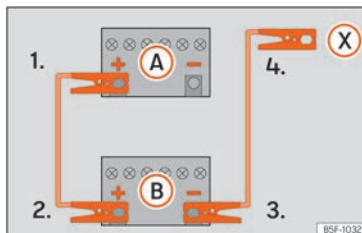

**Fig. 54** Diagram of connections for vehicles without Start Stop system
2. Connect one end of the **red** jump lead to the positive (+) terminal of the vehicle with the flat battery (A) » » » Fig. 54.
3. Connect the other end of the **red** jump lead to the positive terminal (+) in the vehicle providing assistance (B).
- 4a. *In vehicles without a Start-Stop system:* connect one end of the **black** jump lead to the negative terminal (-) of the vehicle providing the current (B) » » » Fig. 54.